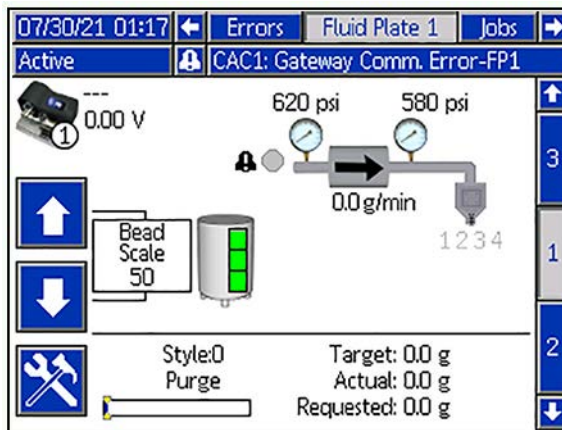

FIG. 35
1. Navigate to the home run screen and toggle the power key (top left key on ADM) to allow the tank stand top fill (Power On), or just provide indications and errors only (Power Off). The run screen will display the tank fill status as shown below. See FIG. 35.